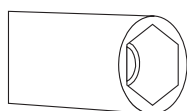

Figure 1
2. For injector change, use a screwdriver whose edge is as the figure 1.